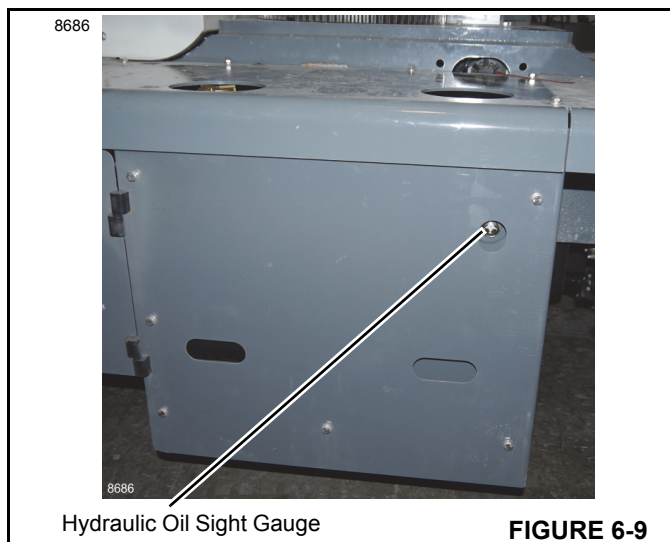

FIGURE 6-9
3. Visually check the oil level on the hydraulic oil level sight gauge (Figure 6-9). The hydraulic oil should be 3 mm (0.125 in) from the top of the sight gauge. If low, fill tank with clean recommended hydraulic oil.